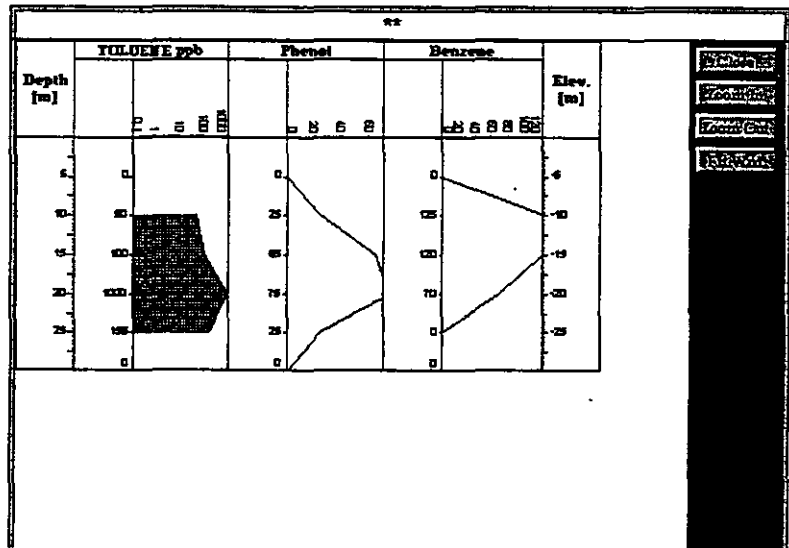

Figure 19-21
17. Select **Display** again. The screen looks as shown in Figure 19-21. Save this log design. Close the display.